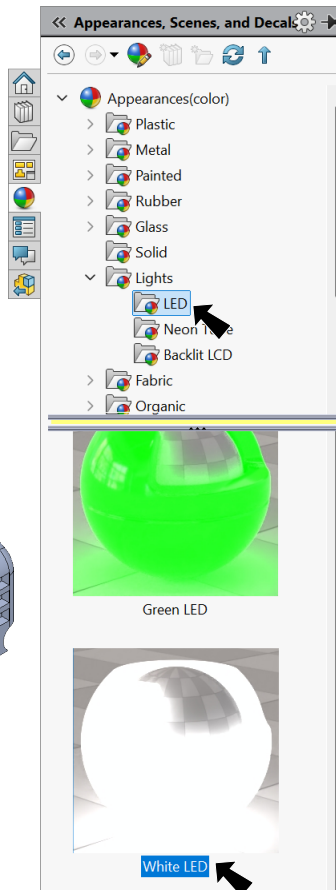

Fig. 170
Step 3. In the Appearances Task pane, expand **Lights**, click **LED** and in the lower pane select **White LED**, **Fig. 170**.